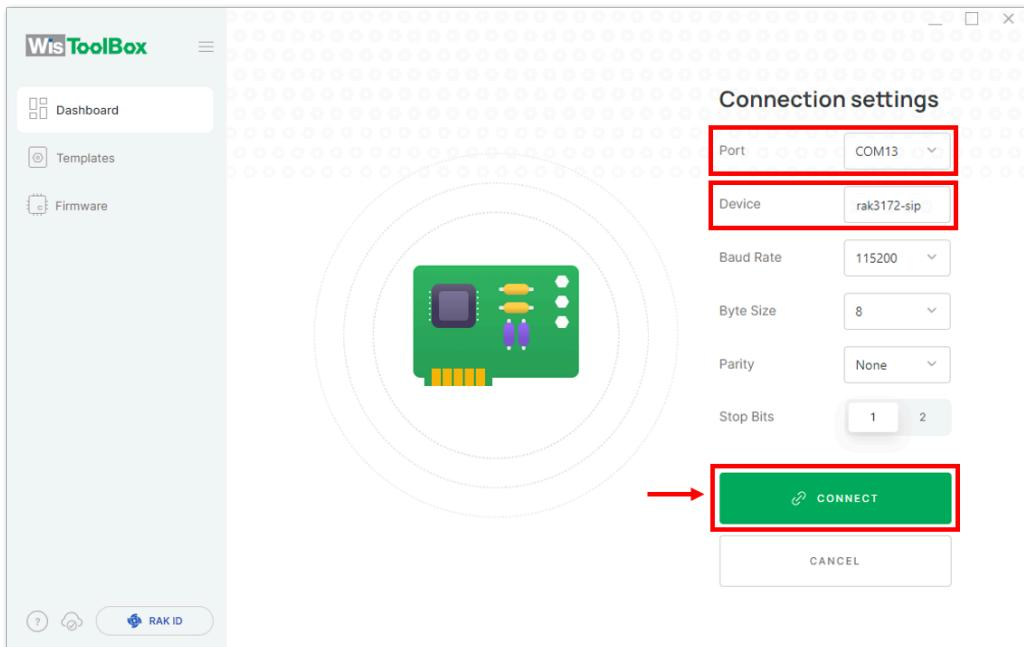

Figure 155: Setting up your device
3. Then select your target port where your **RAK3172-SiP** is connected. Once recognized, click **CONNECT** as shown in **Figure 155**.